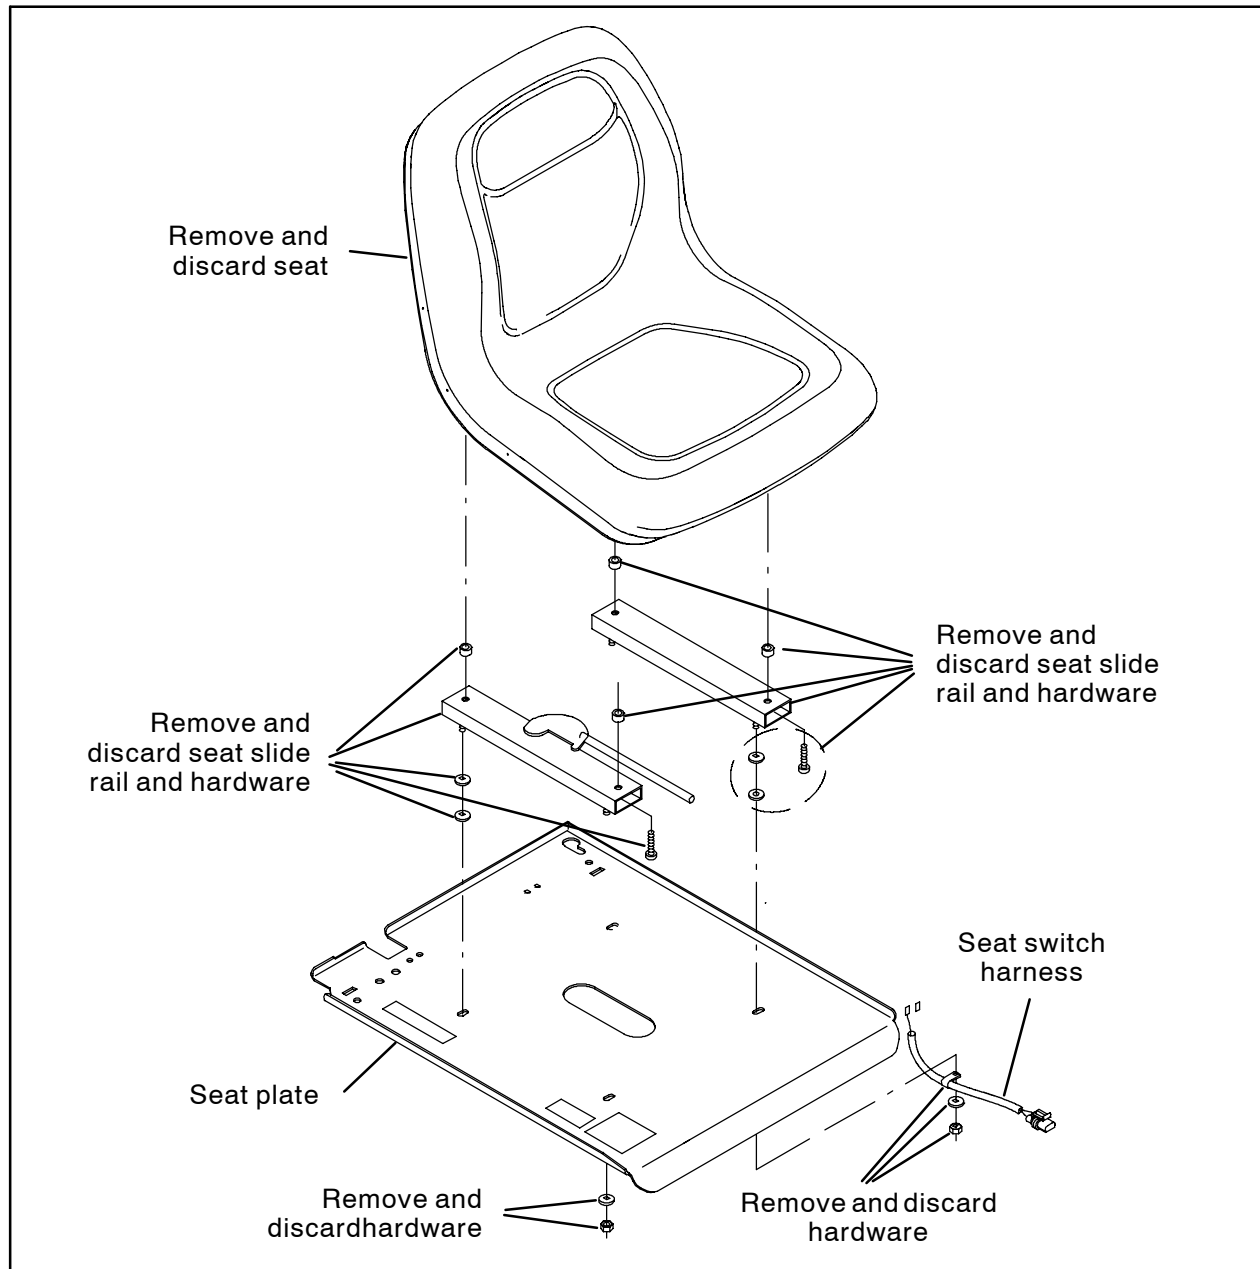

FIG. 1
1. Remove the existing seat assembly from the machine. Set the set switch harness aside. Discard the removed seat and all mounting brackets and hardware. Refer to Fig. 1.